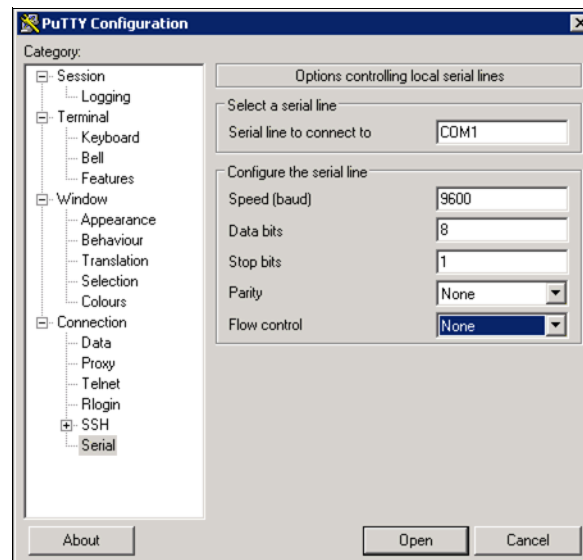

Figure 7-2 Selecting the correct COM port and settings
3. Select the appropriate COM port associated with the serial connection. Figure 7-2 shows an example where COM1 is used.
4. Select the settings, which for this connection are the same as other b-type family products: 9600, 8, None, 1, and None, as shown in Figure 7-2 on page 115.